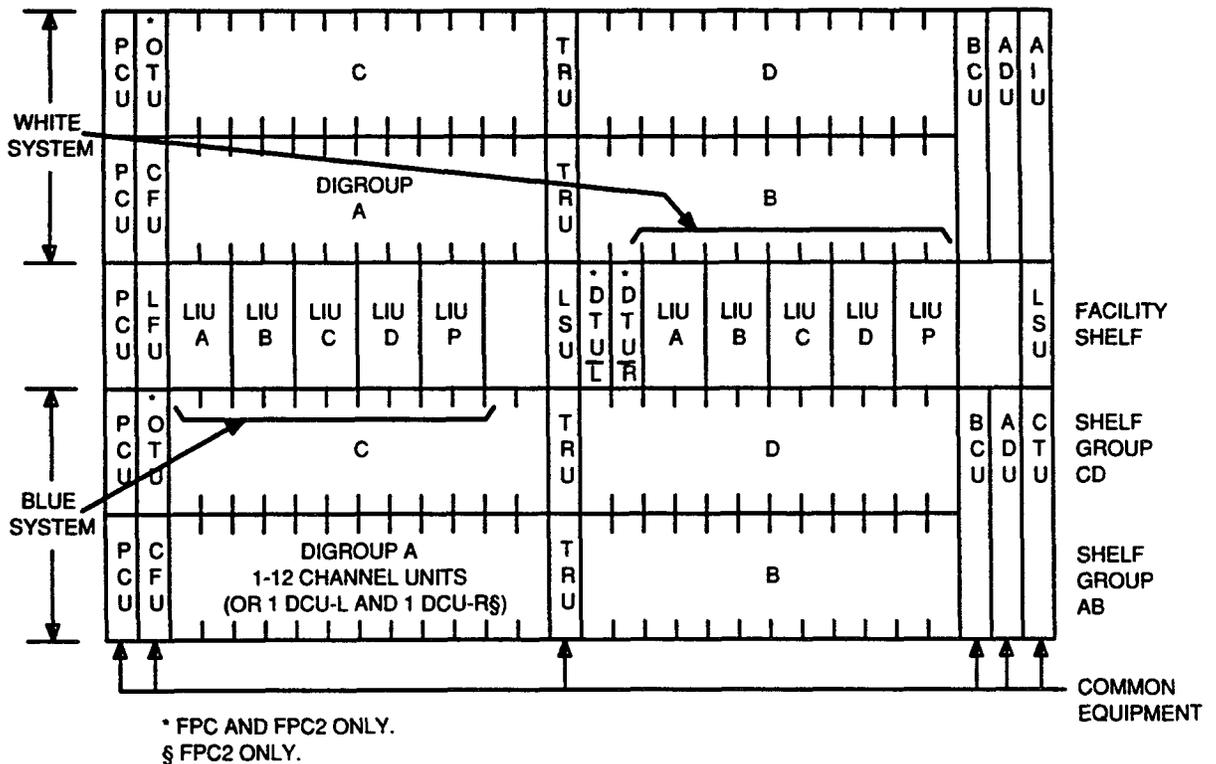
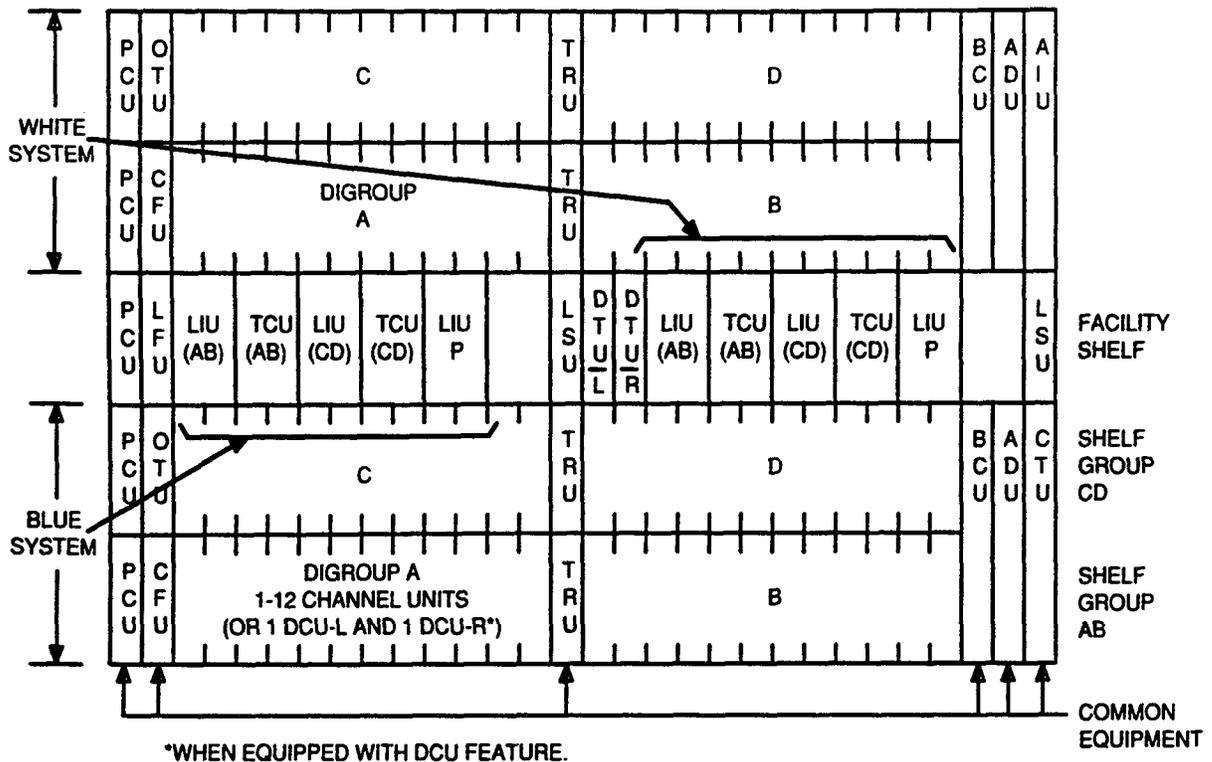

Figure 1—Location of LIUs (FPA, FPC, & FPB Mode 1)
Figure 2—Location of LIUs (FPD and FPB Mode 2)
SUMMARY: On system under test, unseat the LIU for each digroup (FPA or FPC) (FIG. 1) or shelf group AB (FPD) (FIG. 2) and make sure digroup or shelf group is switched to protection. Repeat for each digroup (FPA or FPC) or shelf group CD (FPD) to be tested in system under test.
2. At COT on facility shelf, locate LIU in system under test for digroup (A, B, C, or D) to be tested (FIG. 1) and proceed to Step 4.
3. At COT on facility shelf, locate LIU in system under test for shelf group (AB or CD) to be tested (FIG. 2).